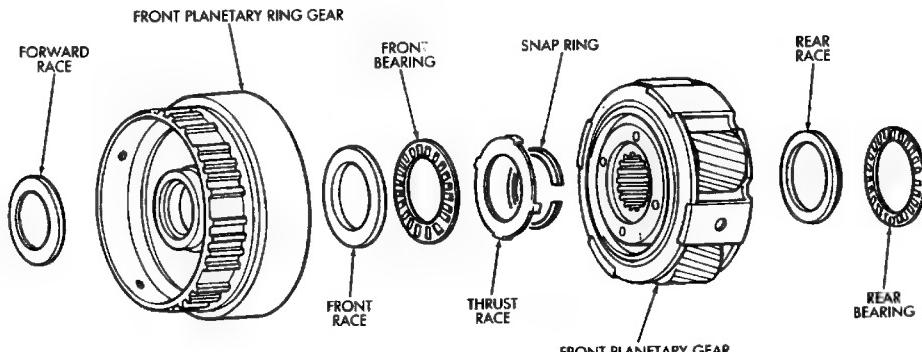

Fig. 1 Front Planetary Gear Components
- (1) Remove ring gear from planetary gear (Fig. 1).
- (2) Remove front bearing and the two races from ring gear (Fig. 1).
- (3) Remove tabbed thrust race from planetary gear (Fig. 1).
- (4) Remove snap ring attaching planetary gear to shaft and remove gear.
- (5) Remove rear bearing and race from planetary gear.
- (6) Measure inside diameter of ring gear bushing.
- (1) Lubricate planetary and ring gear bearings and races with petroleum jelly.
- (2) Identify planetary bearings and races before installation (Fig. 1). Bearings and races can be identified by following dimensions: